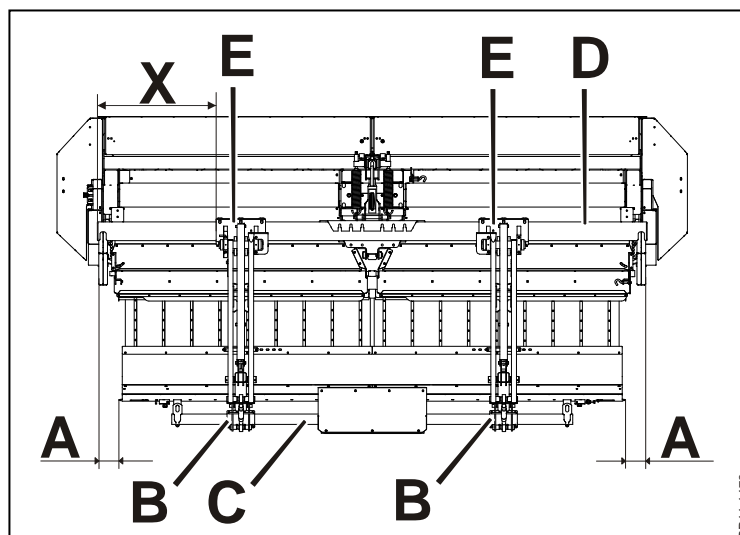

Fig. 3-22
**Fig. 3-22** The belt unit is adjusted laterally by loosening the 16 bolts which hold the brackets **B**, after which the belt unit **C** can be displaced. Tighten the 16 bolts again when the belt unit is in the desired position.